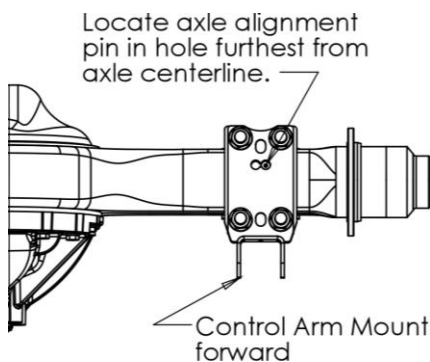

Figure 11. Aligning Axle Connection on Axle Stud
1. Loosely install the Upper Axle Connection on to the axle with the clevis forward. The mount should be flush with the top of the axle with the location stud in the furthest hole (from axle center line). See Figure 11 and Figure 12 for reference.